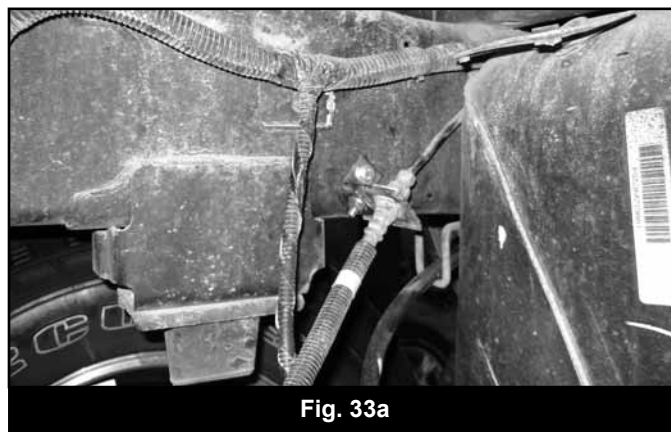

Fig. 33a
19. 2003-11 Models: Attach the brakeline relocation bracket to the factory bracket. Form bracket to rest against the frame. Mark the hole center and drill out to 7/32". (Fig 33a)